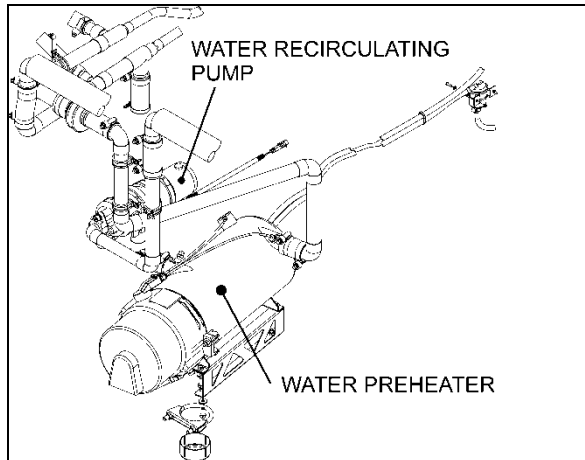

FIGURE 64: PUMP LOCATION – X3 SERIES
- X3 Series - coolant preheater compartment (Figure 64)